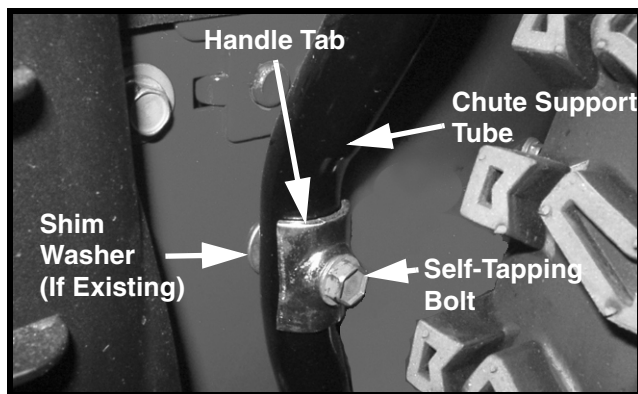

FIGURE 2
4. Locate the chute support tube on the left side of the frame. Using a 1/2" box/open end wrench, remove and discard the upper self tapping screw and handle tab. DO NOT remove the shim washer if existing. See Figure 2.